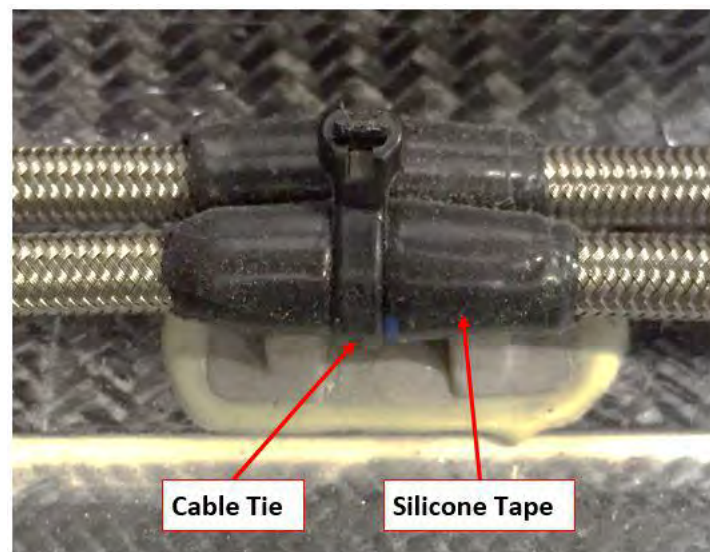

FIGURE 15-13
14. Route the brake line to the parking brake valve. Use the above method to wrap the brake line with silicone tape and attach with a cable tie at each mounting point on the structure. Figure 15-13 shows a typical mount.